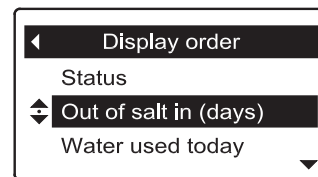

FIG. 68
6. Press the SELECT (○) button. Arrows will appear next to the item (See Figure 68).